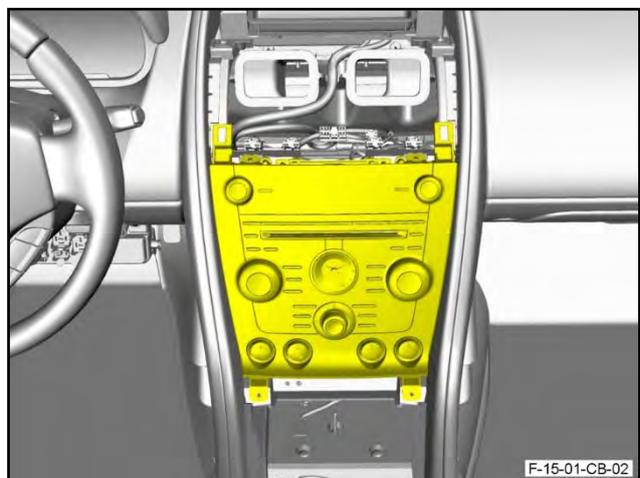

Figure 88
- 122. Put the centre stack assembly into position (refer to Figure 88).